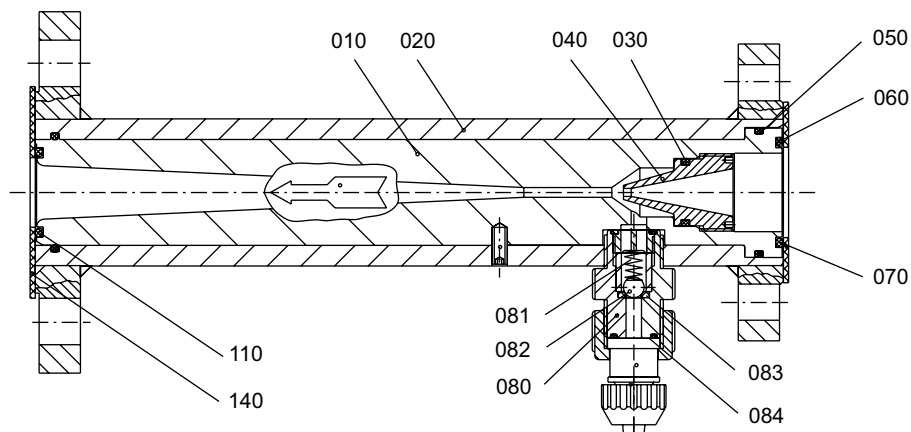

fig. 6 Assembly diagram, 545-138x injectors
- Unscrew the nozzle (pos 040, see fig.6).
- Unscrew the ball check (pos 040, see fig. 6).